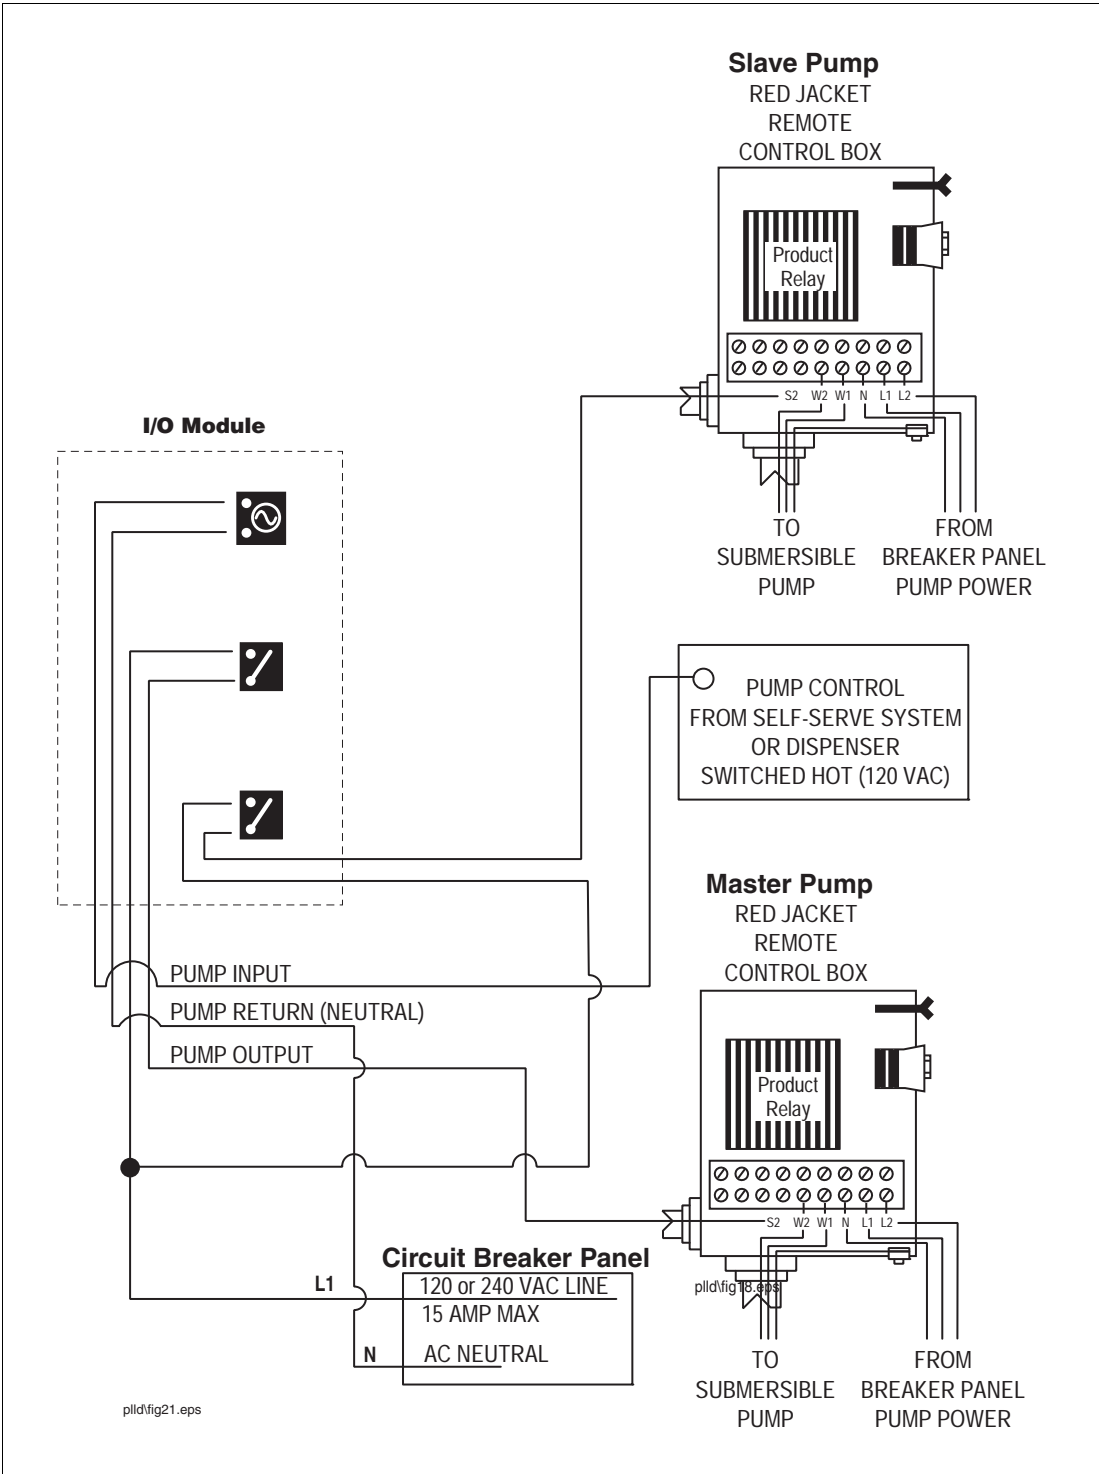
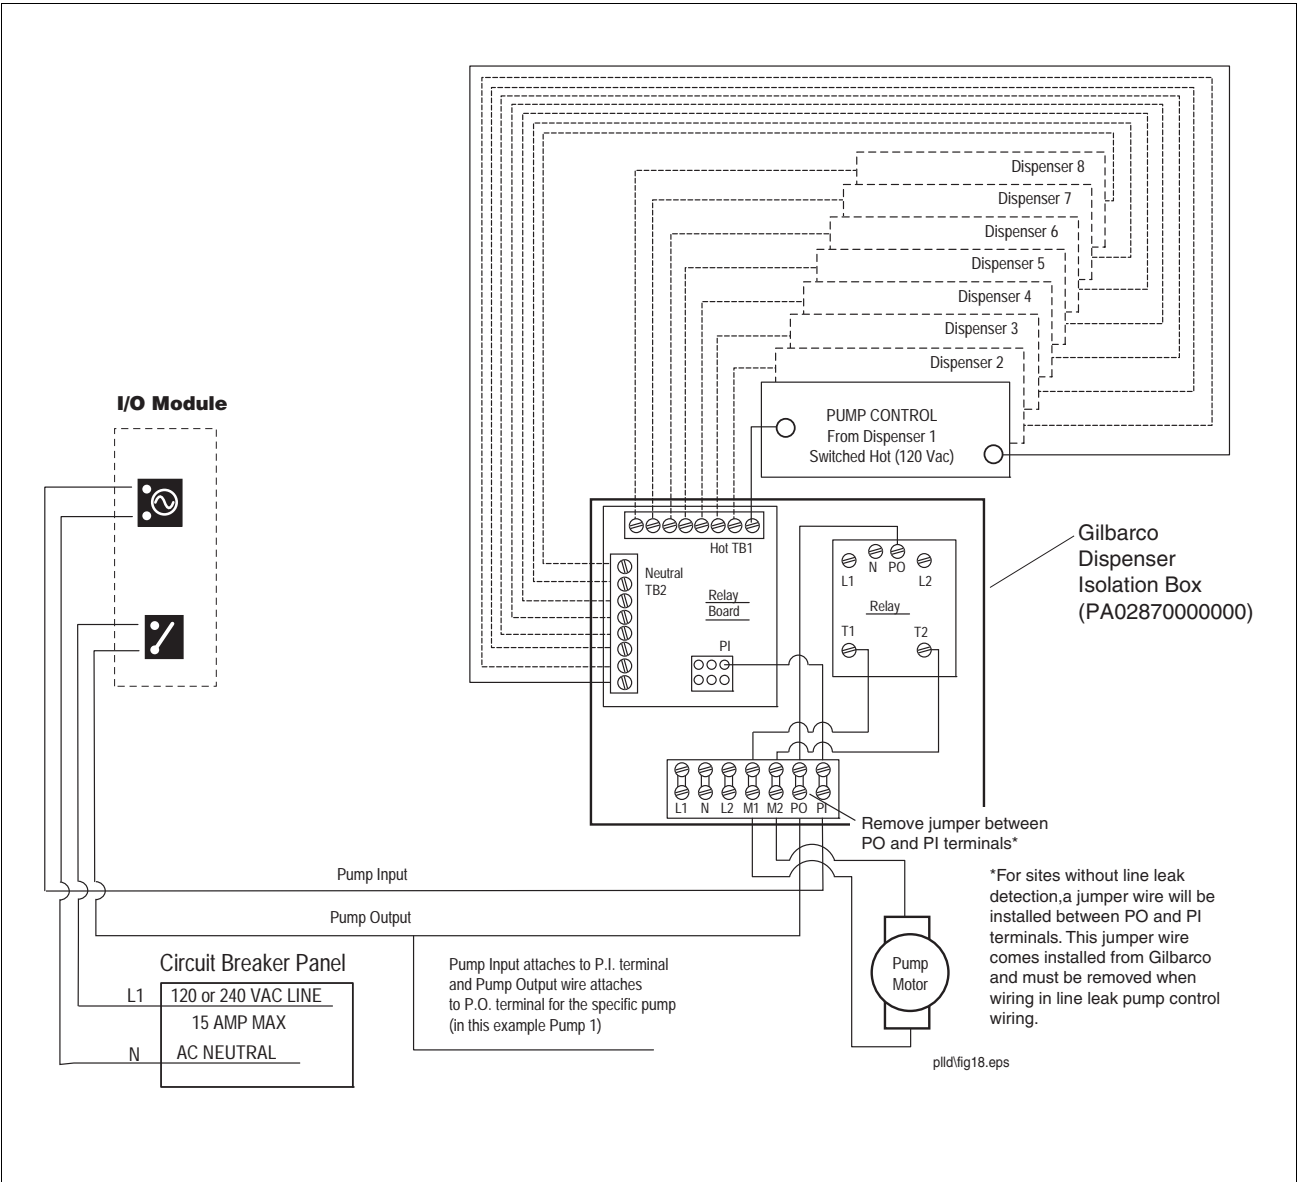
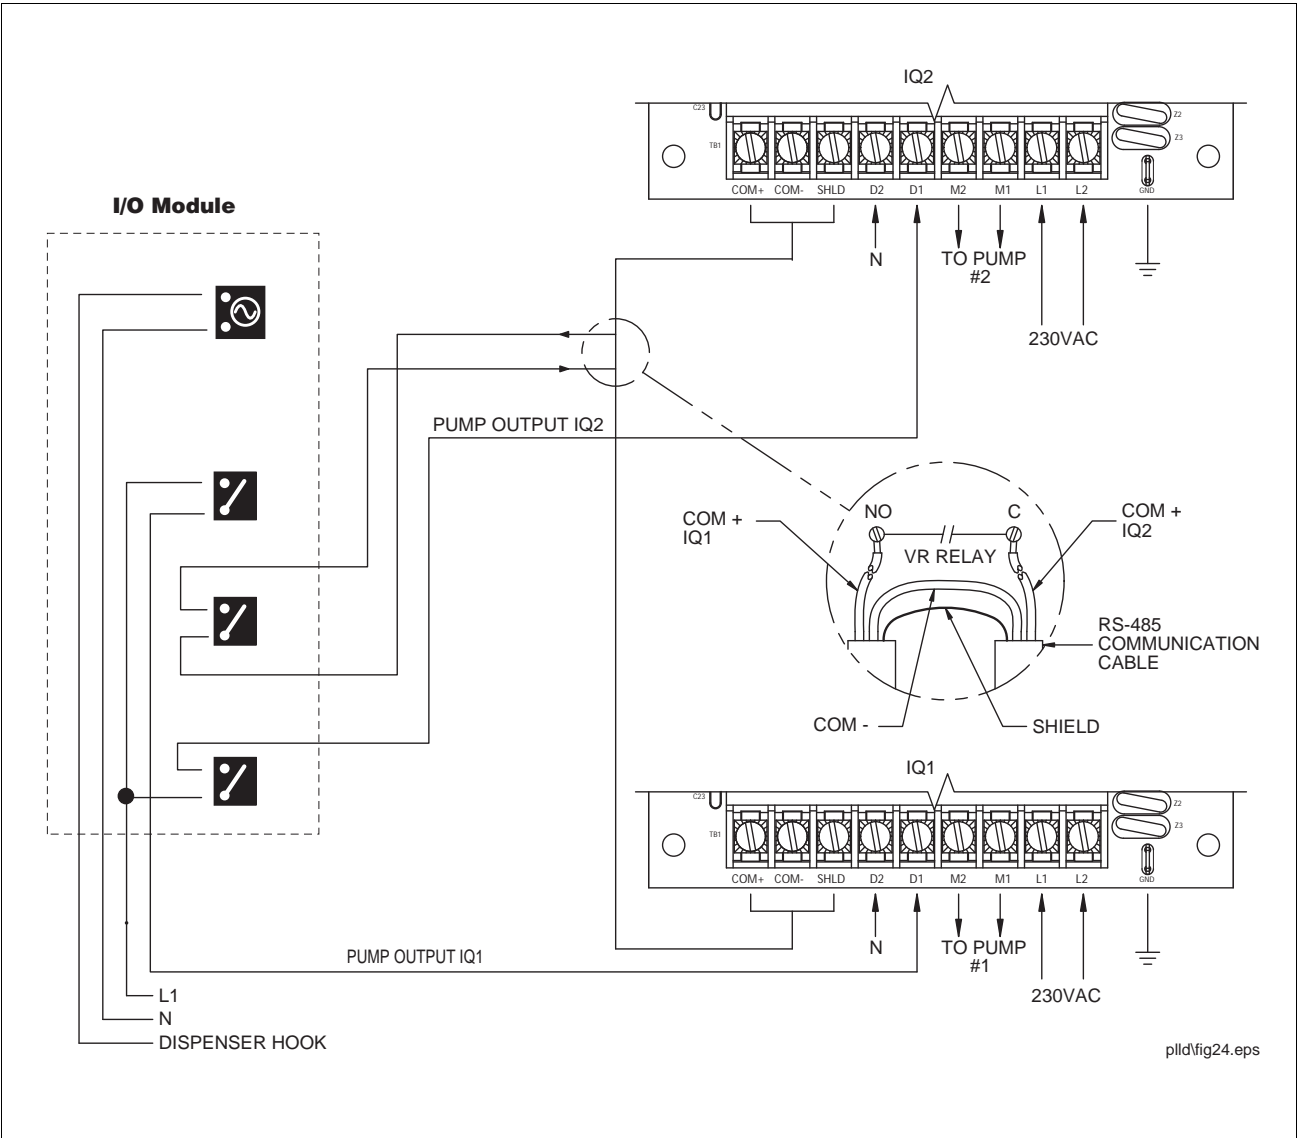

Figure 21. Wiring diagram - manifolded lines DPLLD - multiple tanks (RJ relay control box shown in this example)
Figure 22. DPLLD pump control diagram for Gilbarco dispenser isolation box
Figure 24. Manifolded product lines - dual Red Jacket IQ controllers
- Manifolded tanks (ref. Figure 21, Figure 22, and Figure 24)
- Gilbarco dispenser isolation box (ref. Figure 22)